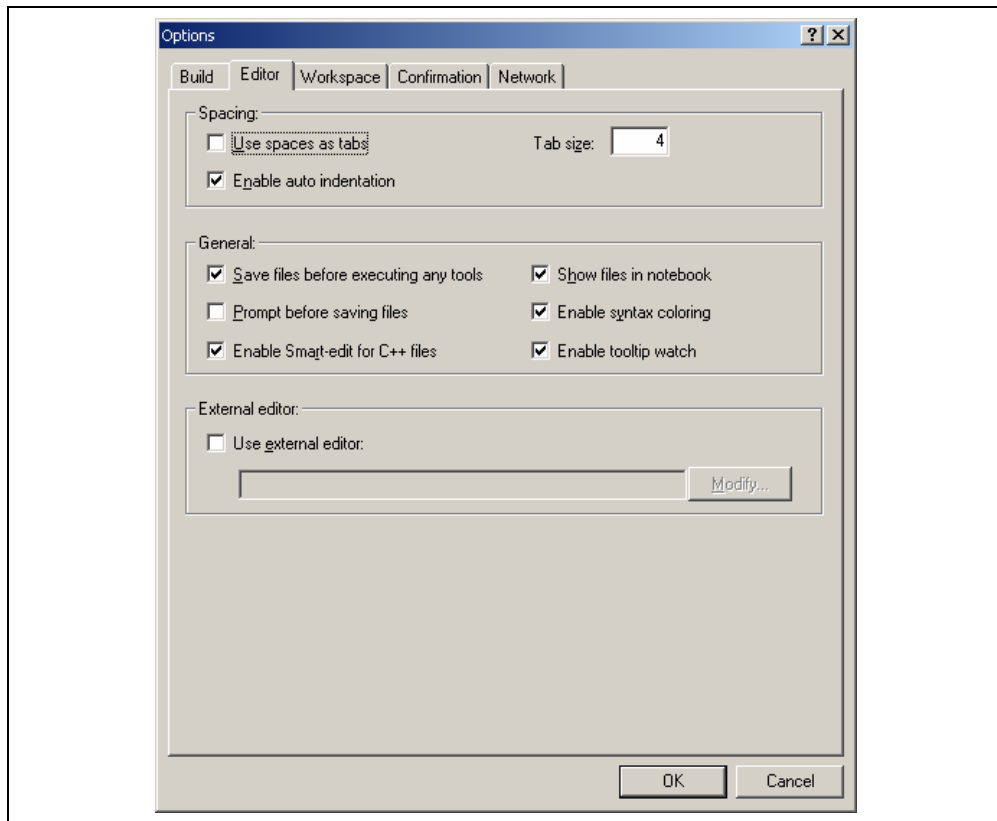

Figure 4.7: Options Dialog Editor Tab
1. Select [**Tools->Options...**]. The “Options” dialog will be displayed. Select the “Editor” tab (figure 4.7)).
1. Select [**Tools->Options...**]. The “Options” dialog will be displayed. Select the “Editor” tab (figure 4.7).
1. Select **[Tools->Options...]**. The "Options" dialog will be displayed. Select the "Editor" tab (figure 4.7).
1. Select **[Tools->Options...]**. The “Options” dialog will be displayed. Select the “Editor” tab (figure 4.7).